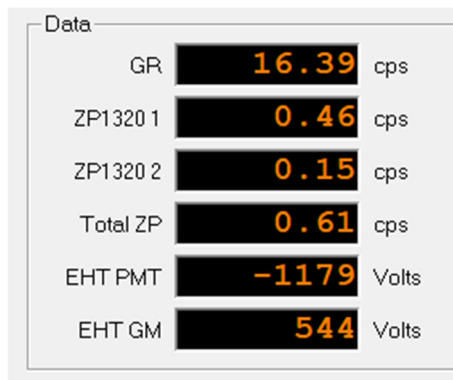

Figure 5-3: Newly displayed parameters
4. Confirm that the necessary channels are displayed in MChNum (Figure 5-3).